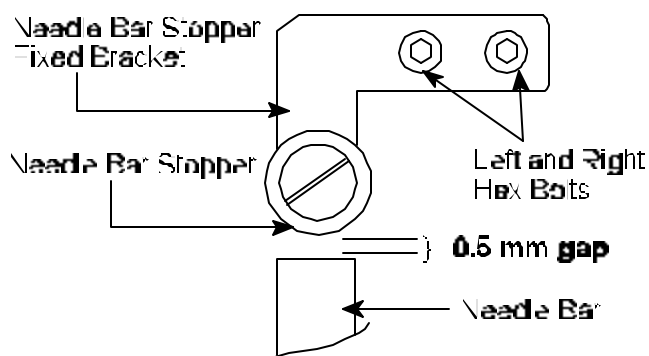

Figure 11
23. Take a business card width (0.5 mm), place between *white* stopper and top of Needle Bar Assembly then secure hex bolts. See Figure 11.